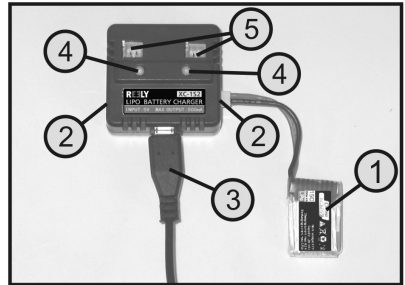

Figure 7
The two charging chutes above the LED displays (see figure 7, item 5) may be used if needed to charge rechargeable batteries of other small models with the corresponding plug-in socket. In connection with the model helicopter „HCP80 3D“, however, the charging chutes are not needed.